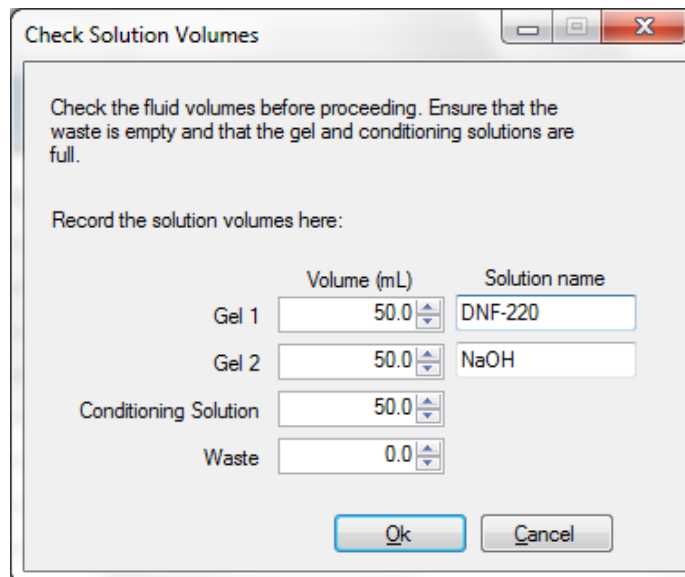

Figure 1. **Solution Levels** menu
- When adding Separation Gel to the instrument, update the solution levels in the *Fragment Analyzer*TM instrument control software. From the Main Menu, select **Utilities – Solution Levels**. A menu will be displayed to enter in the updated fluid levels (Figure 1).
- When adding fresh 1X Capillary Conditioning Solution to the instrument, update the solution levels in the *Fragment Analyzer*TM instrument control software. From the Main Menu, select **Utilities – Solution Levels**. A menu will be displayed to enter in the updated fluid levels (Figure 1).